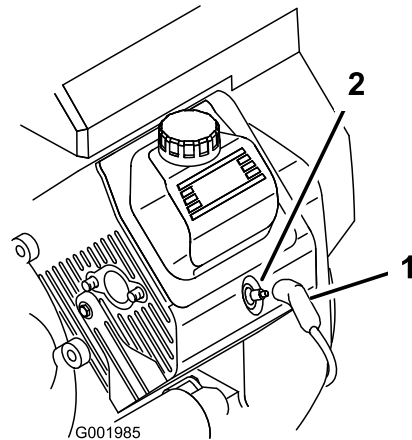

Figure 39
3. Pull the wires off the spark plugs (Figure 39).
- Push the wires onto the spark plugs (Figure 39).